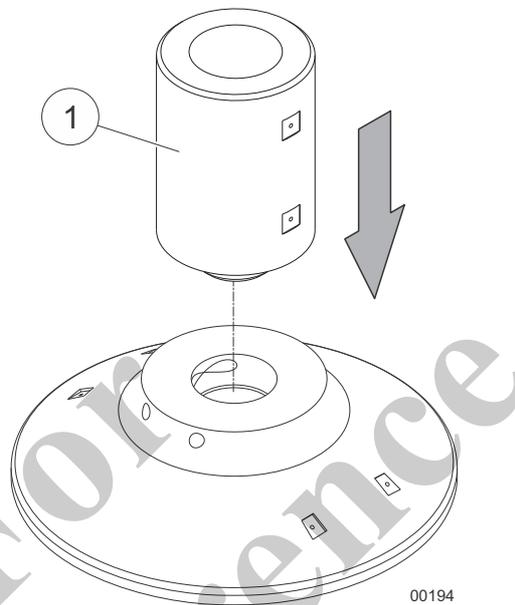

Fig. 137 Placing the adapter in the outrigger pad
- 6 Take the adapter (1) in Fig. 137 out of the tool box and place it in the outrigger pad.